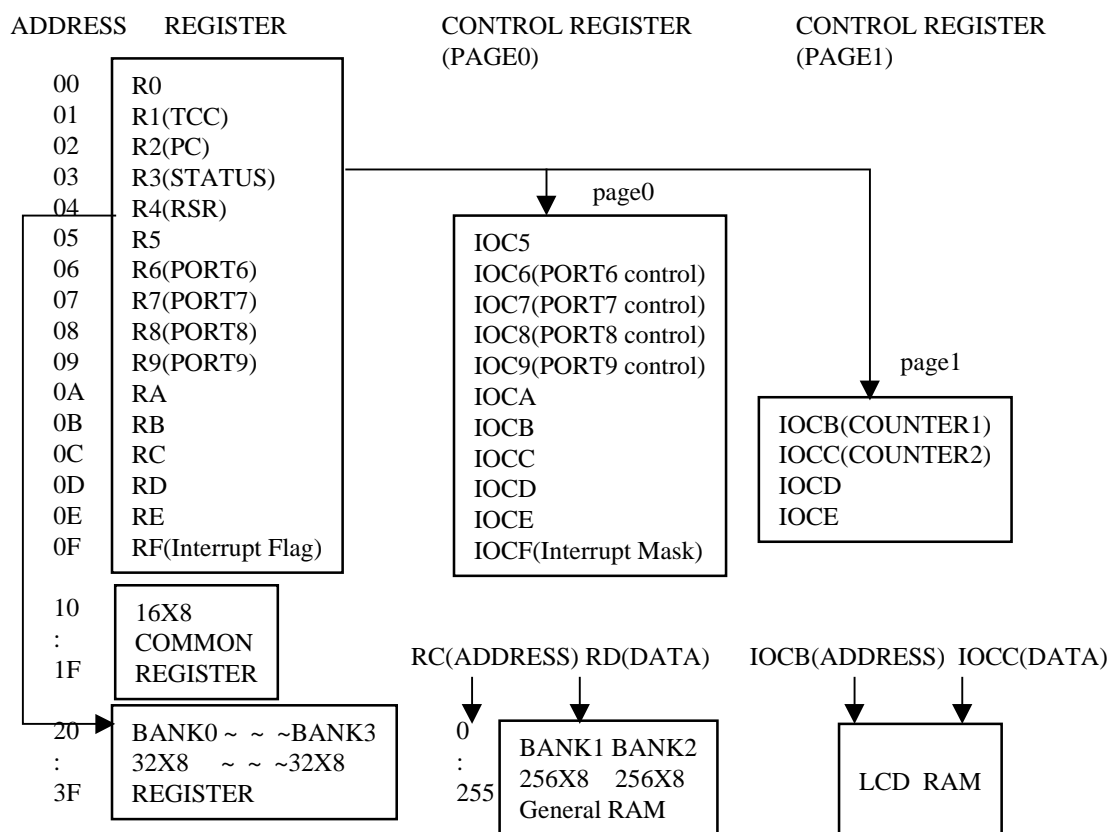

Fig.5 Data memory configuration
- * See the configuration of the data memory in Fig. 5.